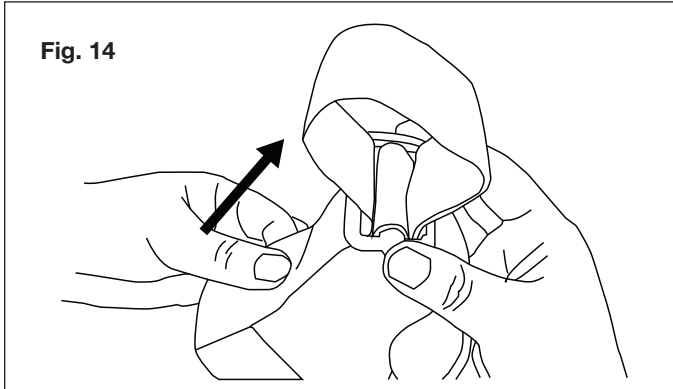

Fig. 14
7. To adjust the length of the strap, push it from one end to form a loop above, and let out as needed, then pull the strap from the other side to tighten (Figs. 14 – 15).